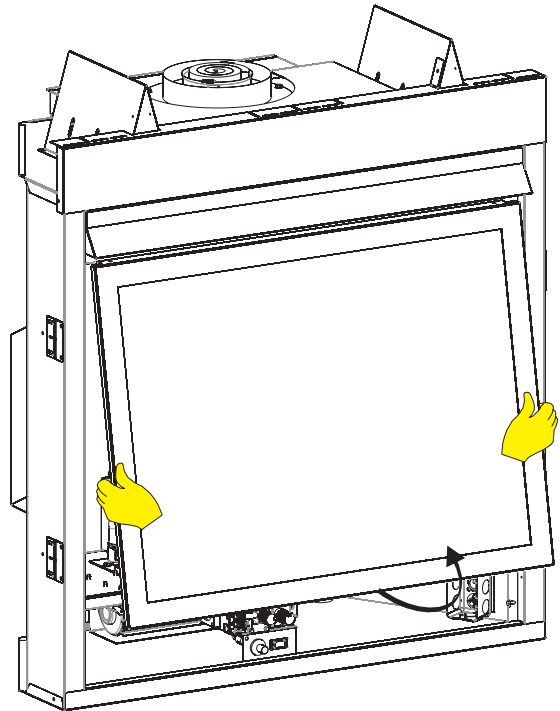

Figure 77
5. Move your hands to the sides of the glass frame and lift it up and away from the fireplace. **See Figure 77.**